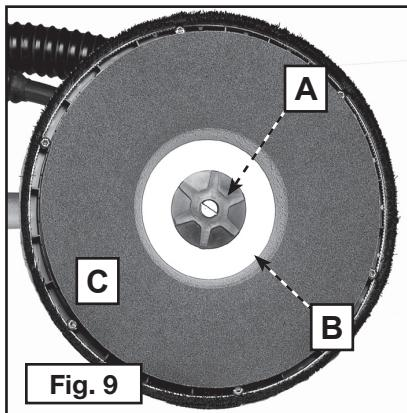
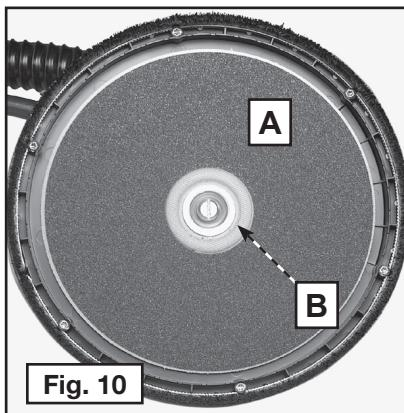

Fig. 9
Fig. 10
2. Rotate the pad retaining nut (A) Fig. 9 counterclockwise and remove.
3. Lift off the large metal washer (B) Fig. 9, and the abrasive pad (C) Fig. 9.
NOTE: When the abrasive pad (C) Fig. 9 is lifted from the sander, the abrasive back-up disc (A) Fig. 10 is exposed. Note that this back-up disc is also covered with an abrasive material, and is used ONLY to prevent "slippage" between the back-up disc and the foam-backed abrasive pad. It is NOT suitable for use as a sanding abrasive. **DO NOT USE THE SANDER WITHOUT A PROPER ABRASIVE PAD.**
- Position the new abrasive pad to the back-up disc, and center the hole of the disc on the hub (B) Fig. 10 of the back-up disc.
- Position the large metal washer (B) Fig. 9, and the retaining nut (A) Fig. 9, to the sander.